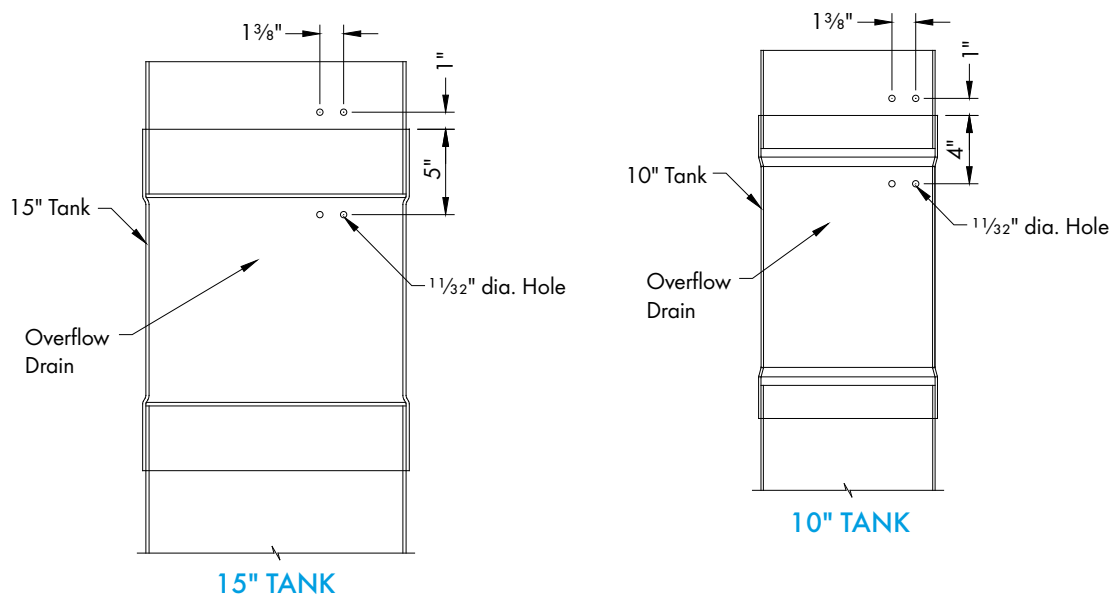

Figure 22C
On the cooling system Tank Kit drill (4) $1\frac{1}{32}$ " dia. holes as shown in Figure 22C. The holes should be located on the side of the Tank Kit that is opposite the 8" Pipe, and so that the float assembly can swing freely and is not obstructed by anything.